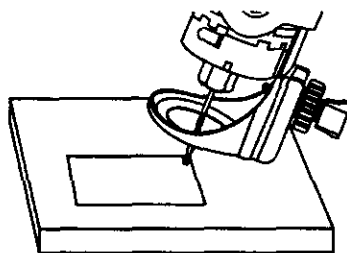

Fig. 6
5. Rest the edge of the sole plate on the workpiece with the bit at an angle of about 45° (see Fig. 6).